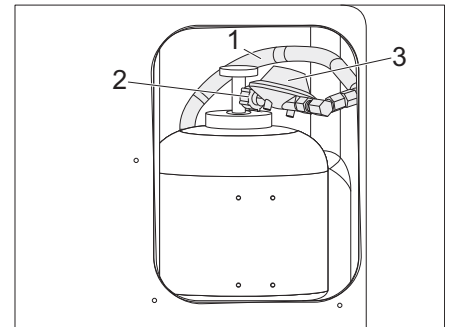

Fig. 68 Connect a gas bottle
- Position the gas pressure regulator (Fig. 68,3) and the gas tube (Fig. 68,1) on the gas bottle and tighten the knurled nut (Fig. 68,2) by hand (left-handed thread).